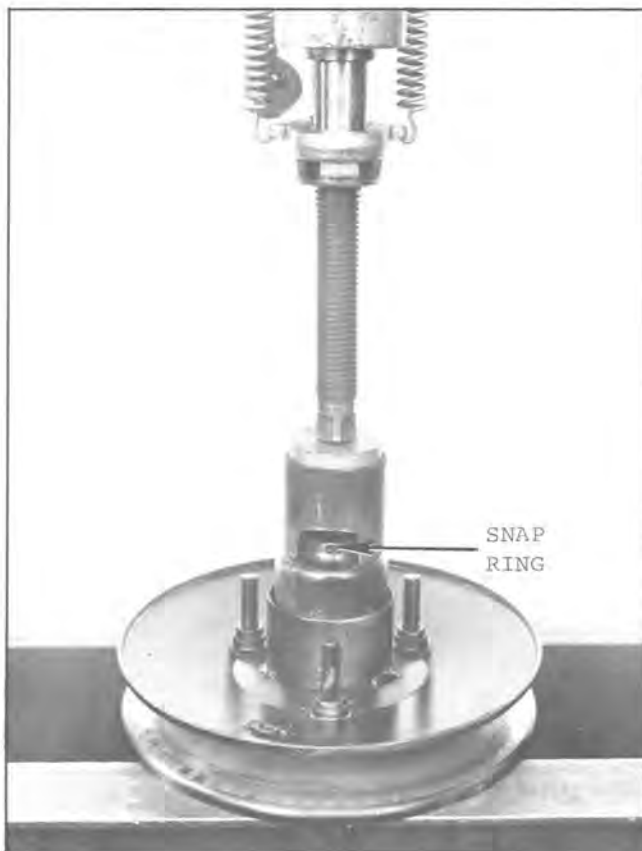

Fig. 70 — Removing Snap Ring From Driven Pulley — L 380 Engine
- a. Place pulley in a press and use an arrangement similar to that pictured in Fig. 70 to remove snap ring.